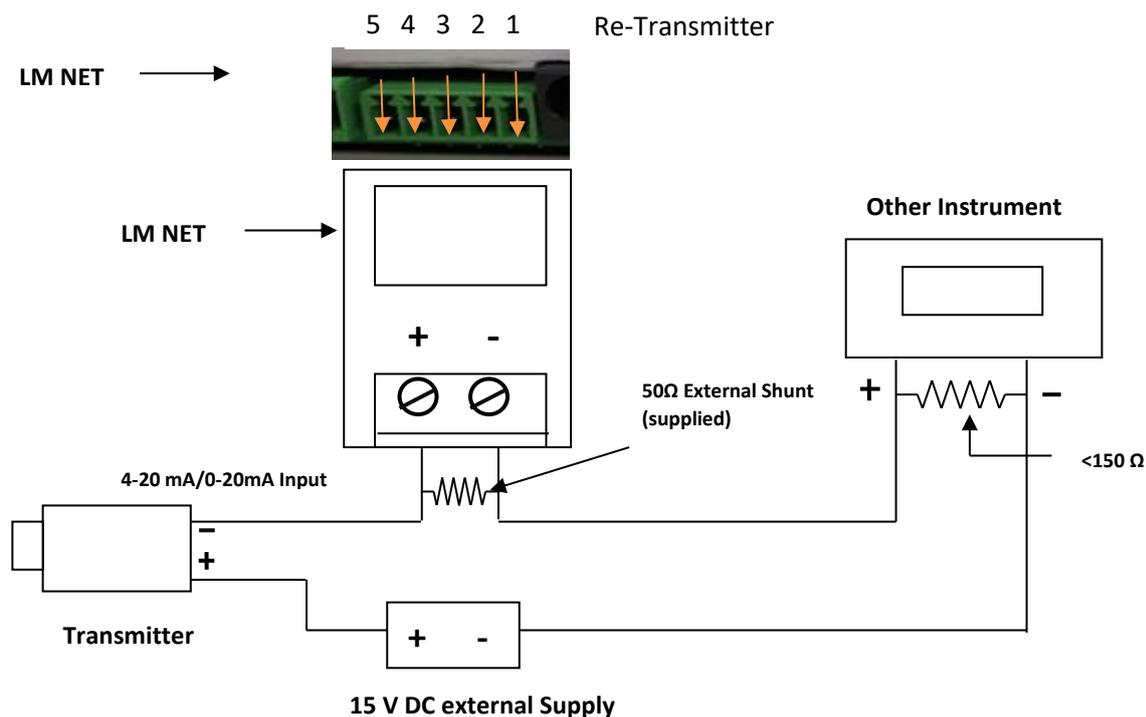

Figure 15 Connecting LmNet and other instrument with transmitter and External Power Supply
**Re-Transmitter** output Op1 gives +15 Volt Connecting LmNet and other instrument in series with Transmitter and External Power Supply as per figure 15.